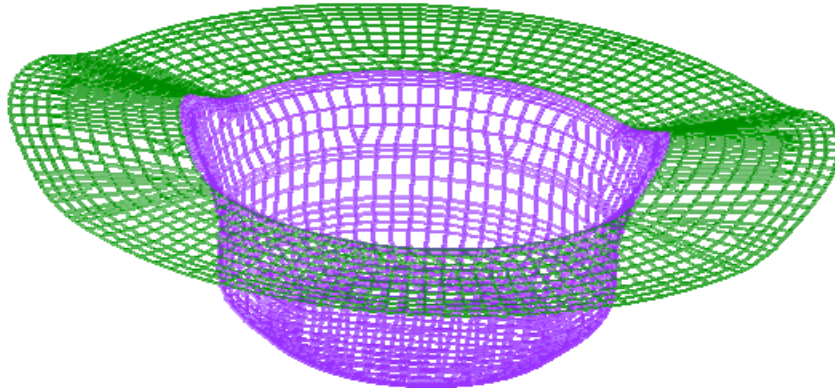

Figure 7.2 Illustration of model in Exercise 7
2. Go to the training input files located in the CD provided along with the eta/DYNAFORM installation, and open the data file named **Double_action_hydro.df**. The model illustrated in Figure 7.2 is displayed in the display area.